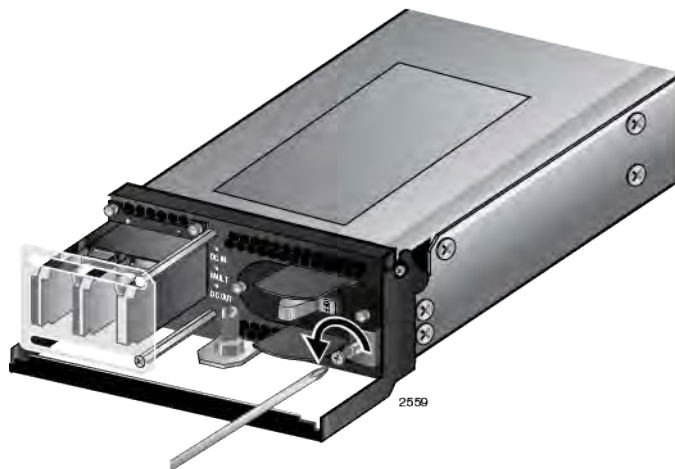

Figure 66. Loosening the Handle locking Screw on the AT-SBxPWRSYS1 DC System Power Supply
5. With a #2 Phillips-head screwdriver, loosen the handle locking screw on the power supply, as shown in Figure 66.